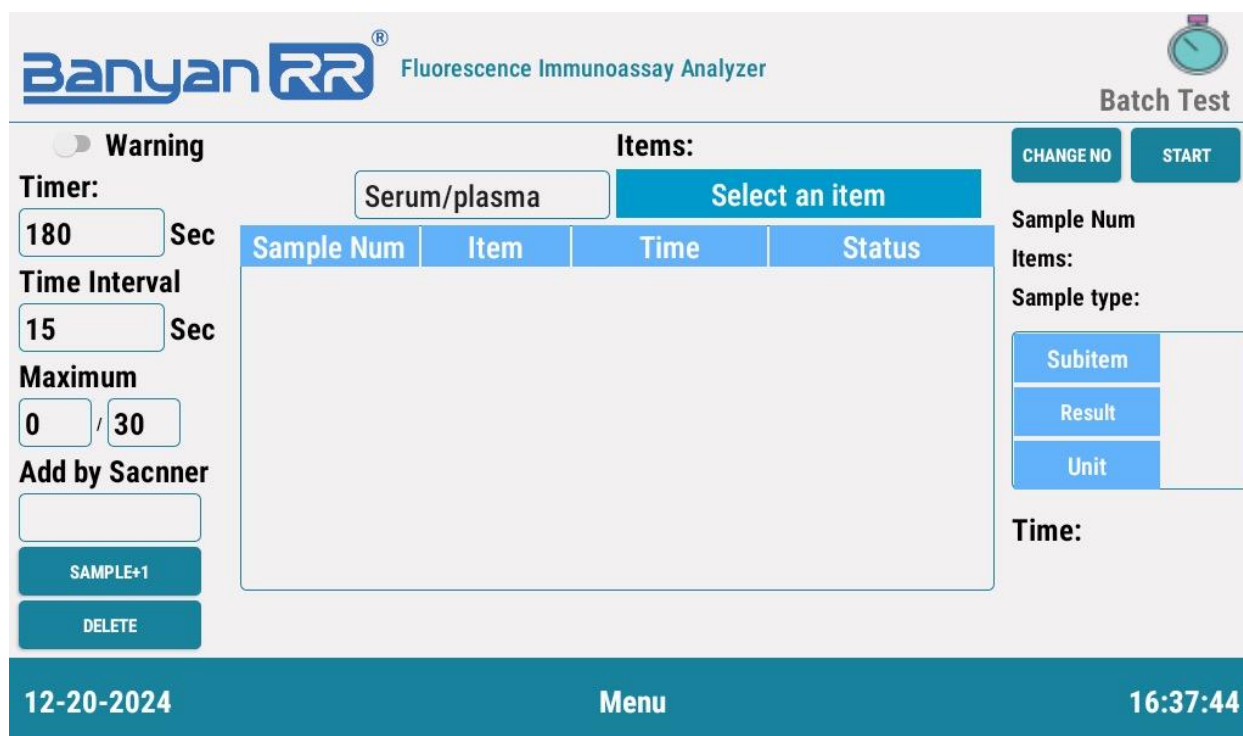

Fig. 4.3
- 1.The interface of [Batch Test] is shown in Fig. 4.3, the user can select the sample type, test items, and add and delete items to be tested